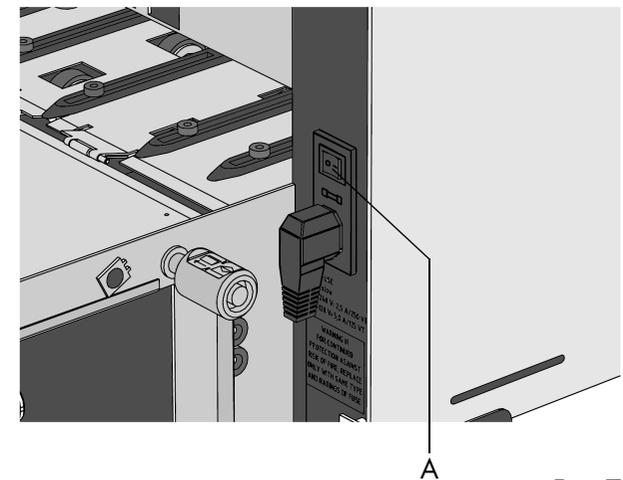
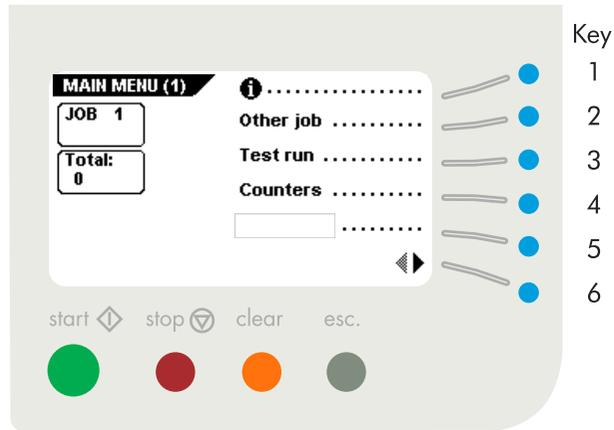

Fig. 7
Fig. 8
The system can be switched on or off with the power switch A (fig. 7). After starting up, the display shows the "main menu (1)" (see fig. 8 on page 6).